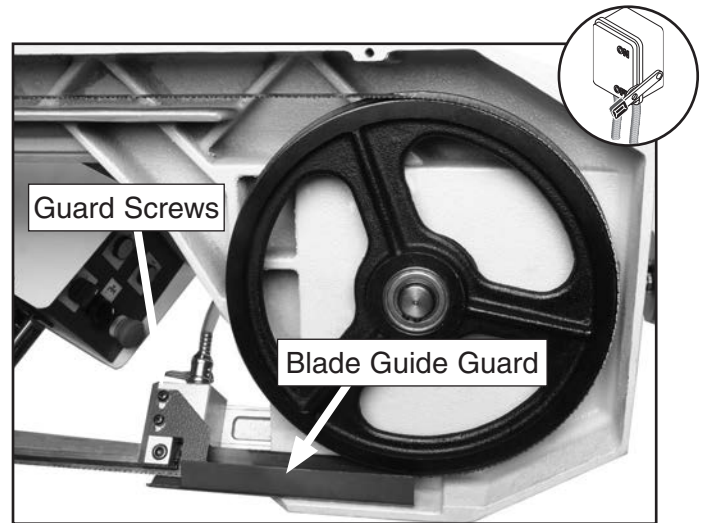

Figure 35. Installed blade and guide guard.
4. Remove both of the blade guide guards (**Figures 35 and 36**) from the bandsaw.